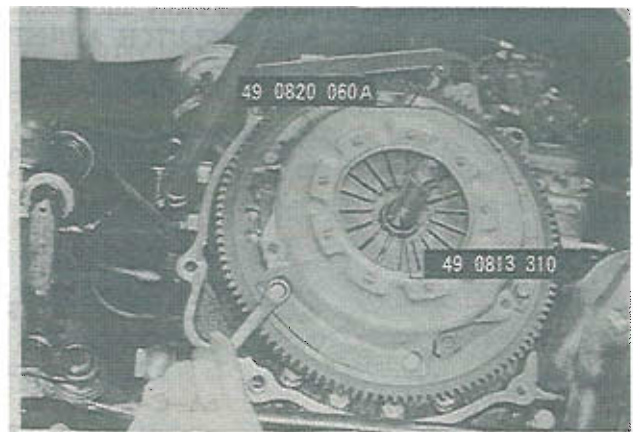

Fig. 6A-3 Removing of clutch cover assembly
4. Install the *clutch disc arbor* (Part No. 49 0813 310) as shown in Fig. 6A-3.